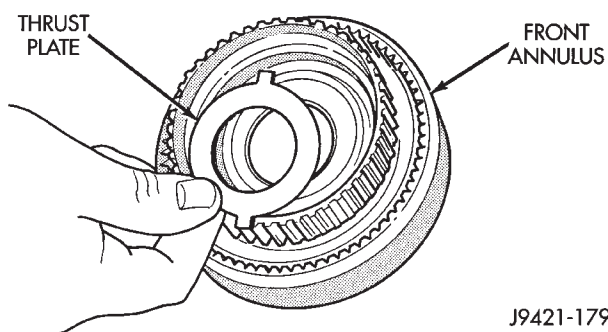

Fig. 91 Positioning Thrust Plate On Annulus Support
(18) Position thrust plate on front annulus gear support (Fig. 91). **Note that plate has two tabs on it. These tabs fit in notches of annulus hub.**